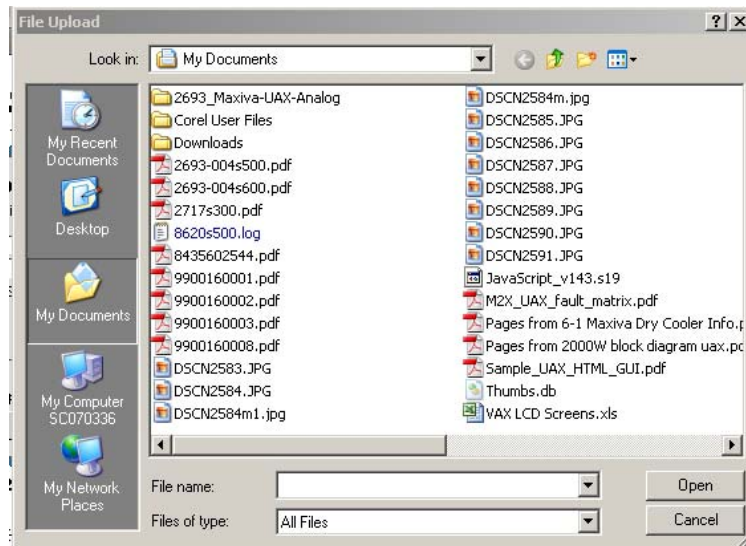

Figure 5-15 File Upload Window
- STEP 6** Press the Browse soft button to the right of the file to upload box on the In-System Programming screen. This will bring up the File Upload sub window, shown in Figure 5-15.